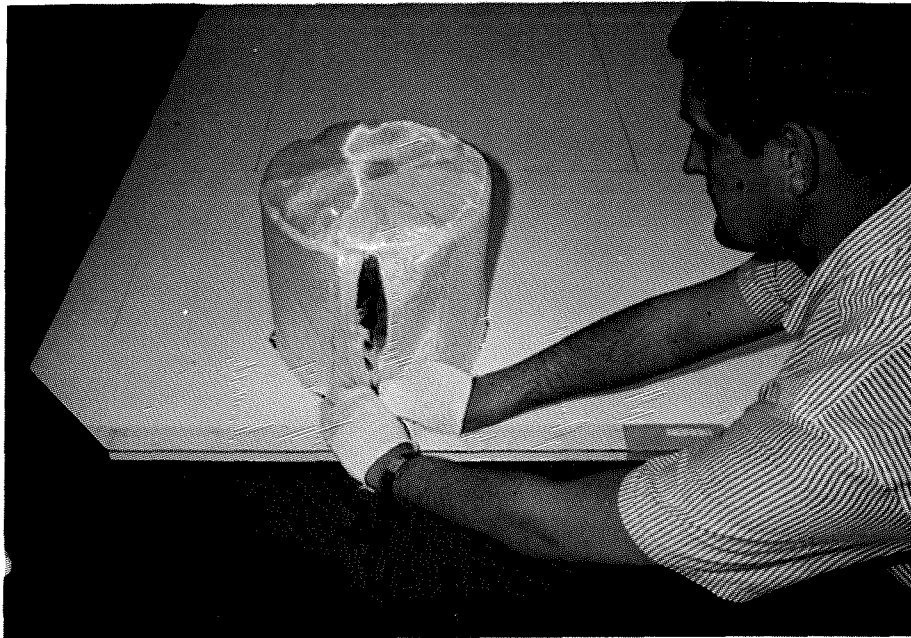
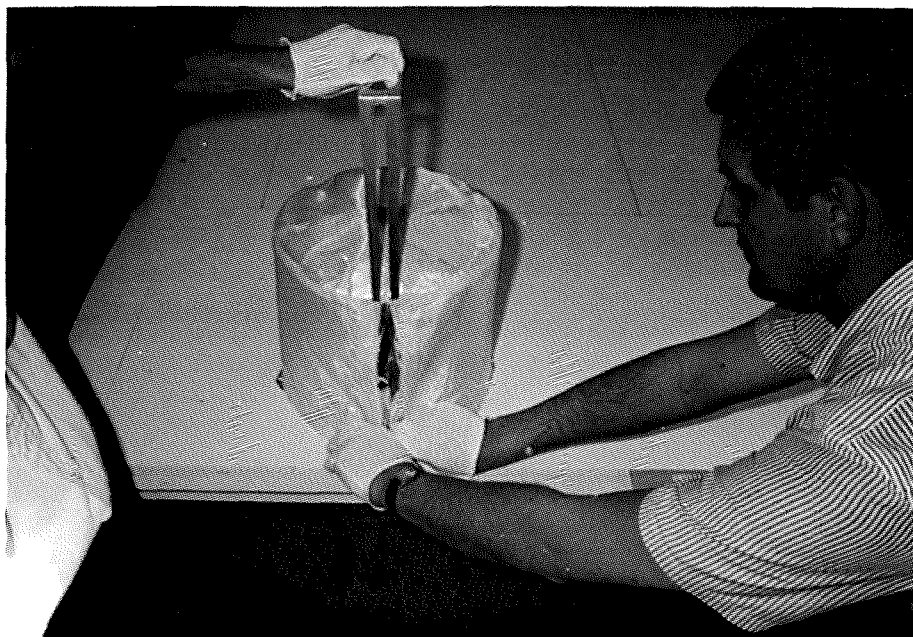
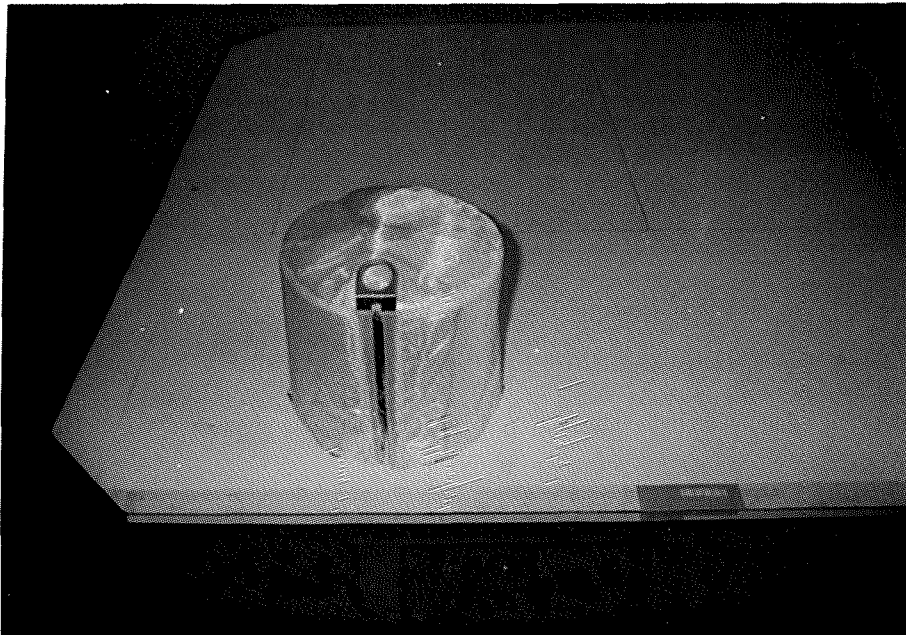

FIG. 13
FIG. 14
FIG. 15
STEP 10. While second person holds girdle bottom ends together as shown in Figure 13, first person inserts astronaut release pin in slotted seam of girdle (Figure 14). Shroud is now in the configuration of Figure 15.